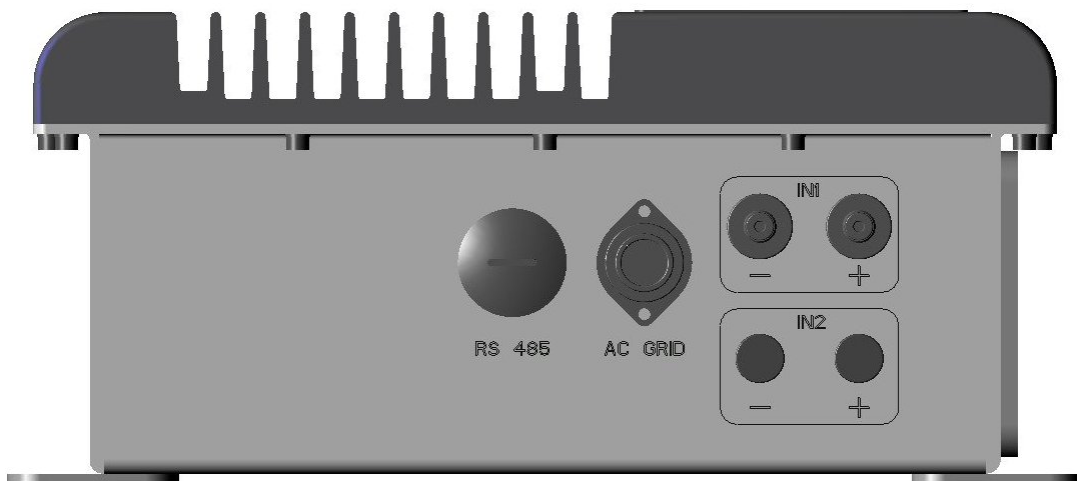

Fig.11 Connections at the bottom of the inverter
At the bottom of the inverter, from left to right, (Fig. 11) there are:
- 2) Enter the wire in the Binder counterpart connector provided, taking care to respect the indications present on the plastic near the terminal blocks (as indicated in Fig. 11): terminal block 1 for Neutral, terminal block 2 for the line, terminal block 3 not connected, and the terminal block identified by the  symbol for the PE earth connection.